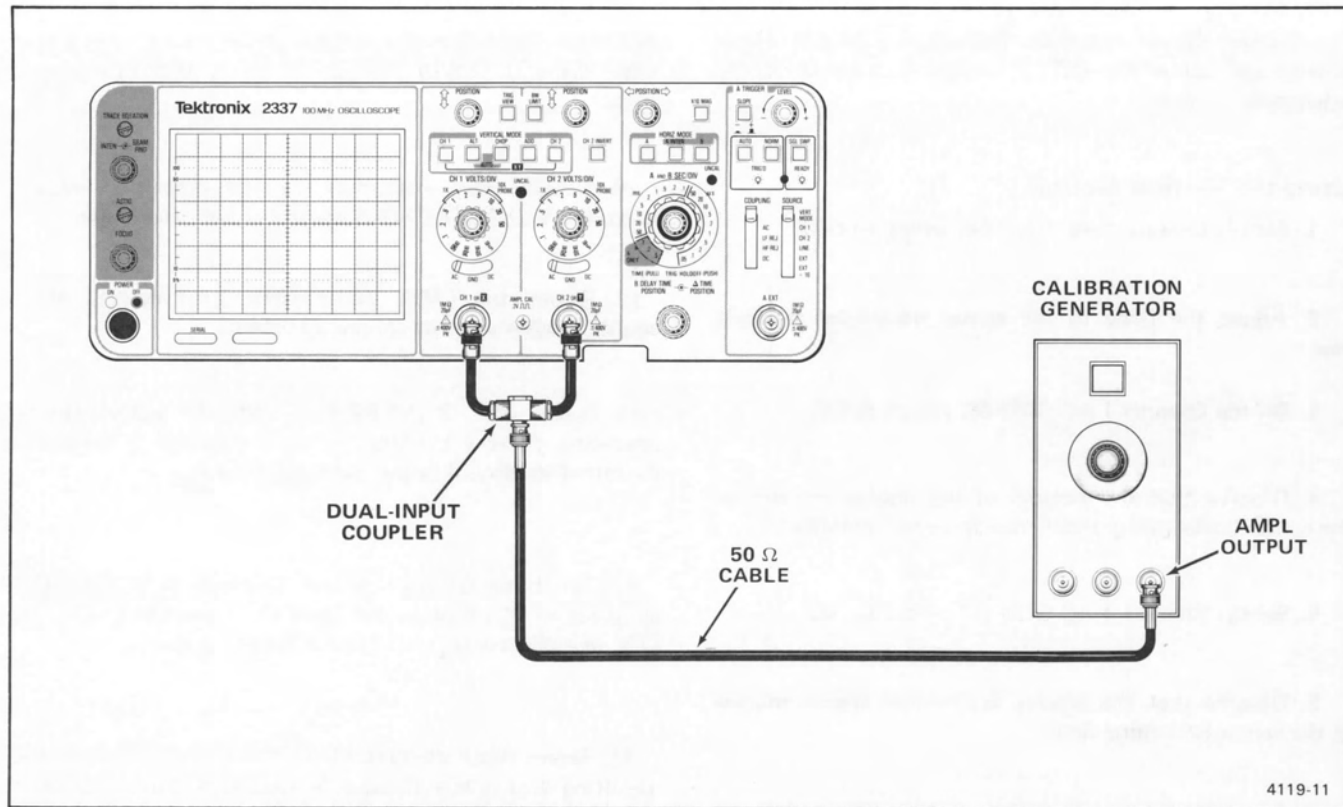

Figure 10. Initial setup for instrument familiarization procedure.
1. Connect the calibration generator standard-amplitude output to both the CH 1 and CH 2 inputs as shown in Figure 10.